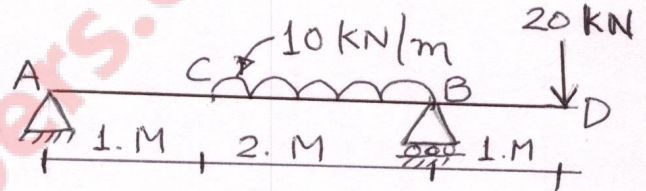

Fig. 4
- (c) Draw shear force and bending diagram for the beam as shown in fig.4 ૦૪